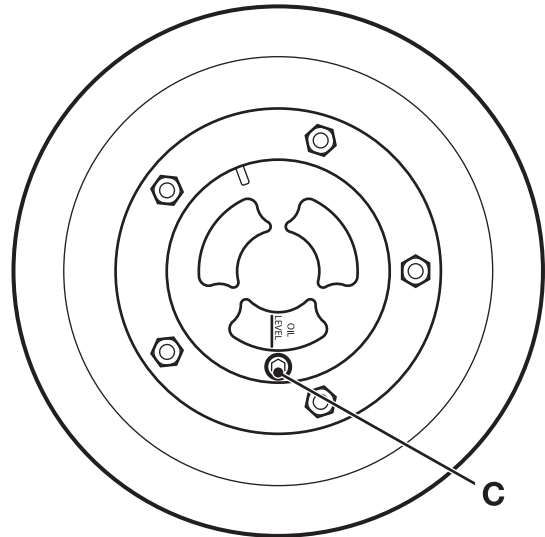

Fig 55.
- 1 Park the machine on level ground so that the 'OIL LEVEL' mark on one hub is at the bottom. → Fig 55. (□ 3-64).